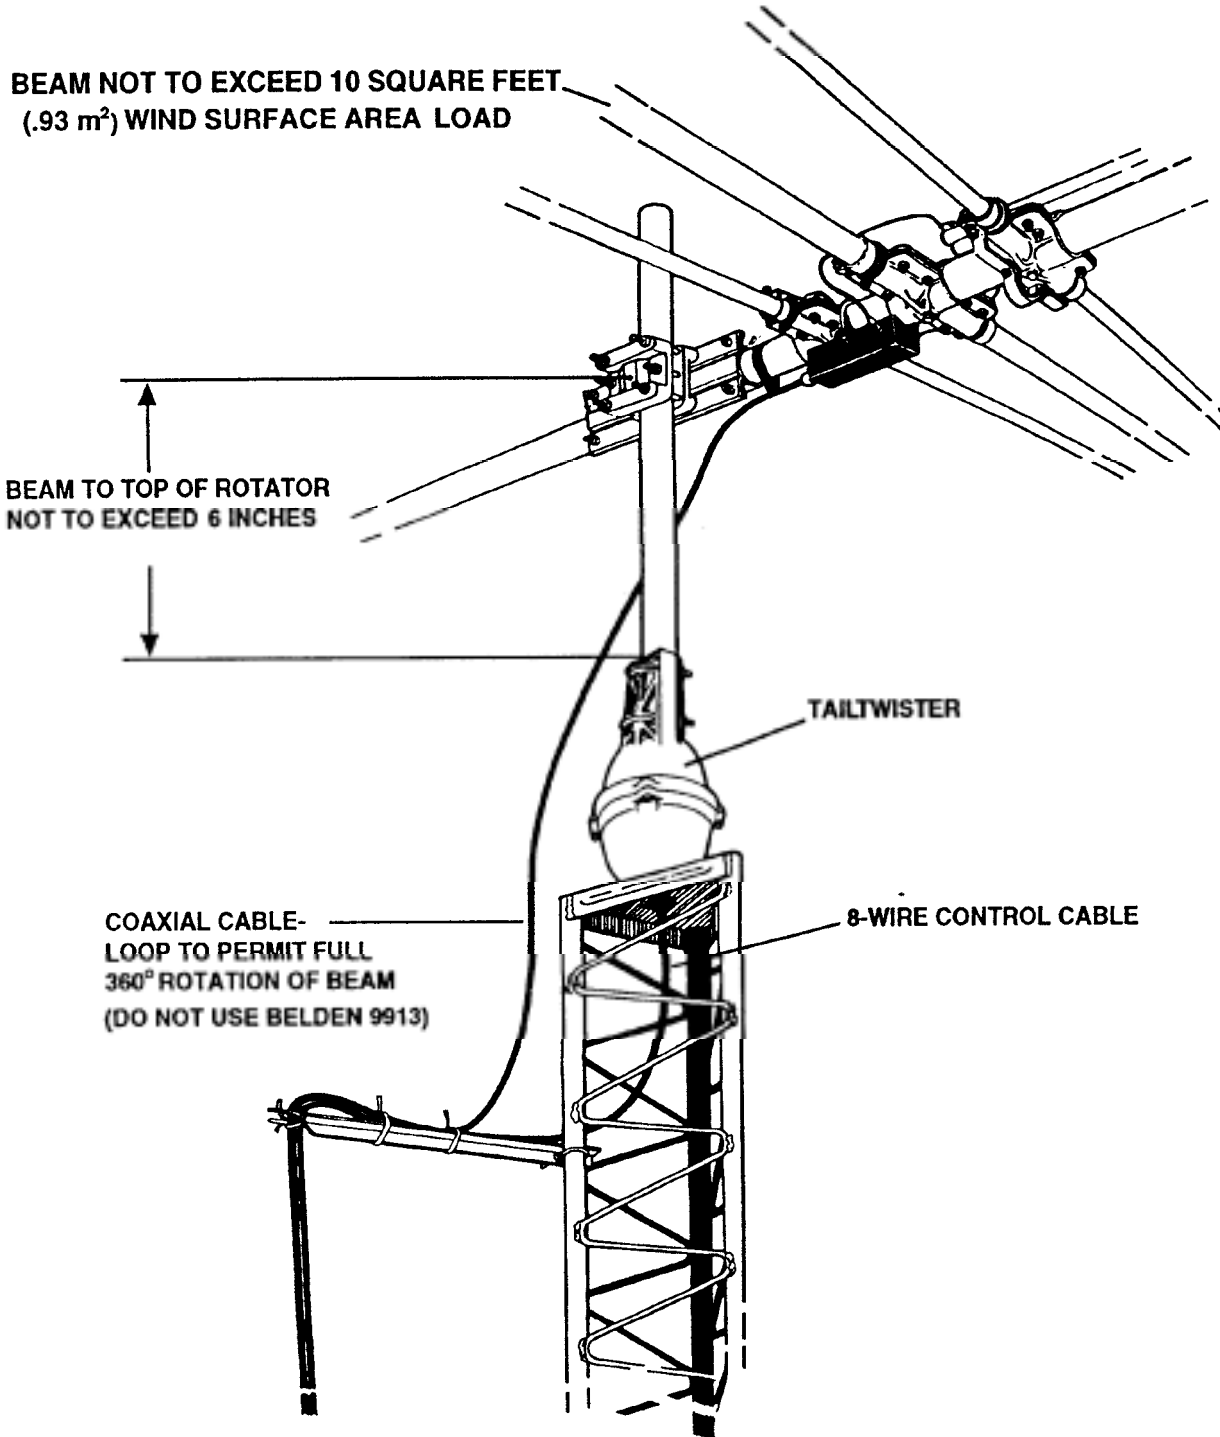

Figure 4 Rotator Mounted on Tower
The rotator is mounted to the top surface of a tower, see Figure 4, by means of six (6) bolts furnished in the hardware kit. Use the following procedure:
1. Position the rotator on the top surface of the tower or other support structure and attach by means of six (6) bolts and lockwashers. The top of the tower must be cut out to allow the connecting 8-wire cable with connector to pass through the plate. If a new hole must be made, use the template in the back of this manual. Tighten the six (6) bolts.
3. Assemble the mast to the rotator using the U-bolts, nuts, lockwashers, and clamp plate as shown in Figure 4. Apply a coating of heavy-duty motor oil or grease to the threads of the stainless steel bolts and U-bolts to prevent seizing. Tighten all bolts securely.